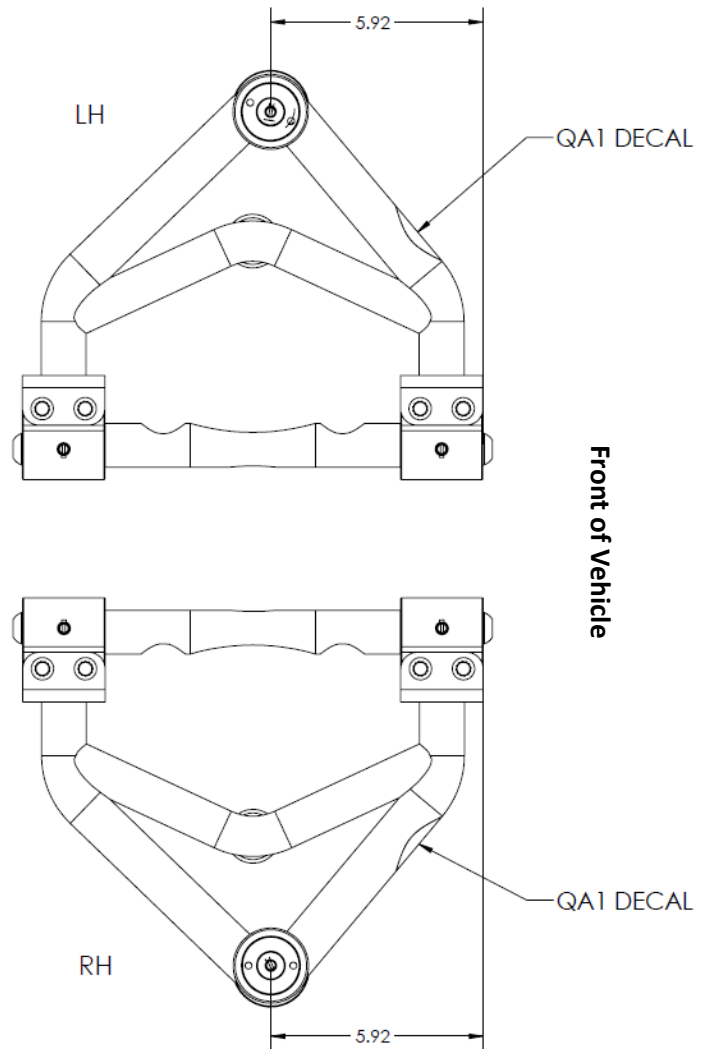

Figure 17; Upper Control Arms
- Install the provided concave spacers, then the QA1 upper control arm or '63-'72 OE upper control arm with the flat side of the cross shaft towards the mount (**Figure 8**). Torque the nuts to 70 lb. ft. See **Figure 17** for control arm identification.